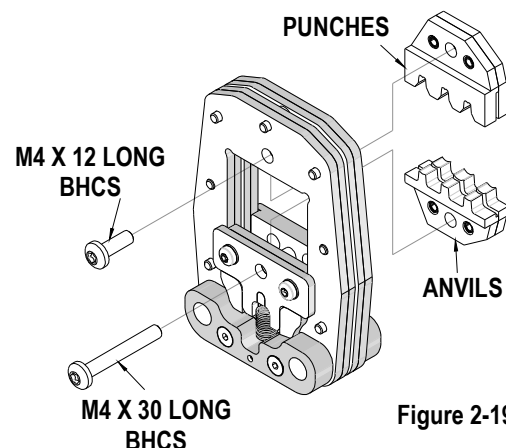

Figure 2-19
2. Insert the Anvils or dies into the bottom slots of the nest. Install the M4 x 30 long BHCS and lightly tighten in place. See Figure 2-19.